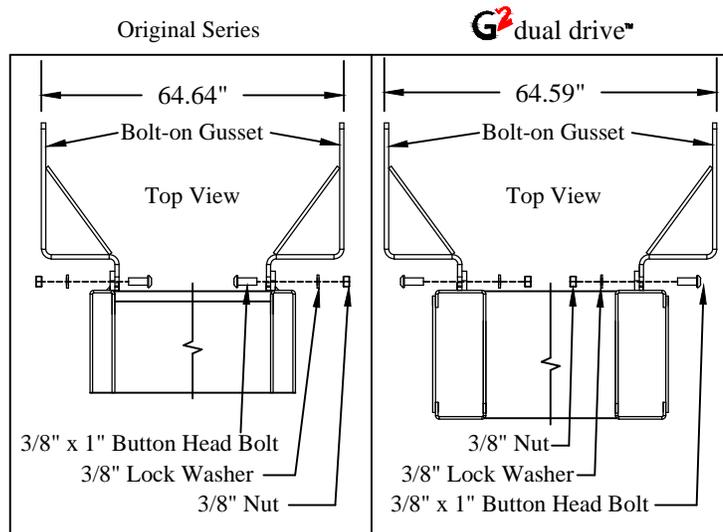

Figure 3: Top view of liftgate bolt-on gussets.
1. Install the eight (8) 3/8" x 1" button head bolts, lock washers, and nuts in the position shown for your configuration (Figure 3).
Note: If gussets are already welded to the uprights, verify the gusset dimensions (Figure 3) and you do not need the bolt-on gussets.